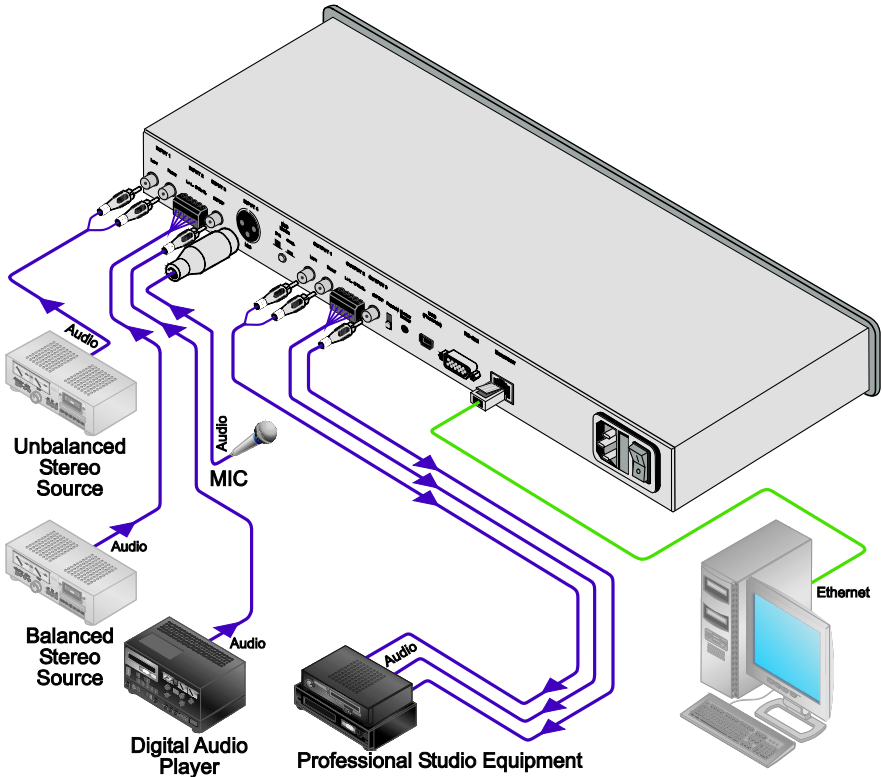

Figure 2: Connecting the 910 Digital Audio Preamplifier
To connect the **910** as illustrated in the example in Figure 2¹:
- Connect left (L+, L-), right (R+, R-) and ground (G) terminals on the OUTPUT 2 terminal block connectors to a balanced stereo audio acceptor (for example, a power amplifier)
4. Connect the power cord² (not shown in Figure 2).